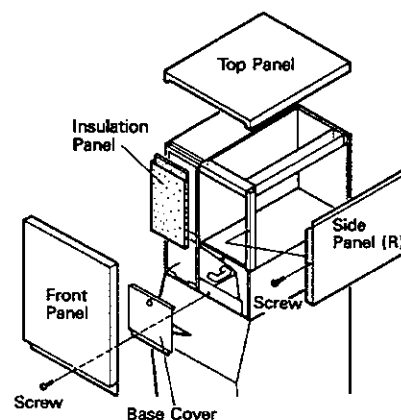

Fig. 7
2. HOW TO REMOVE PANELS - See Fig. 7